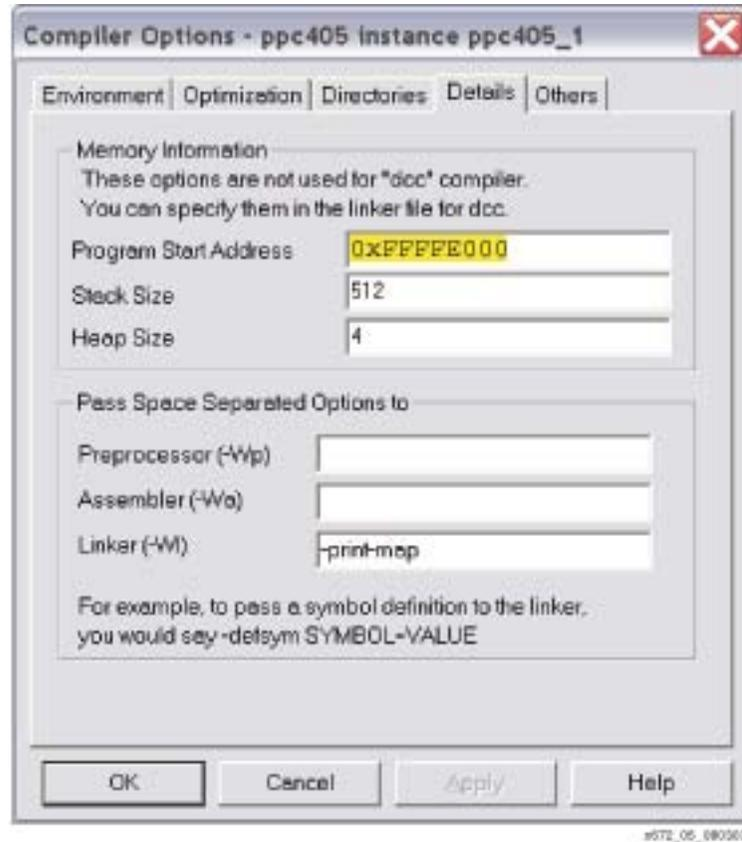

Figure 7: Program Start Address
1. Change the program start address under Options / Compiler Options - Details Tab. The screen capture in Figure 7 illustrates the dialog. The current address is 0xFFFFE000.